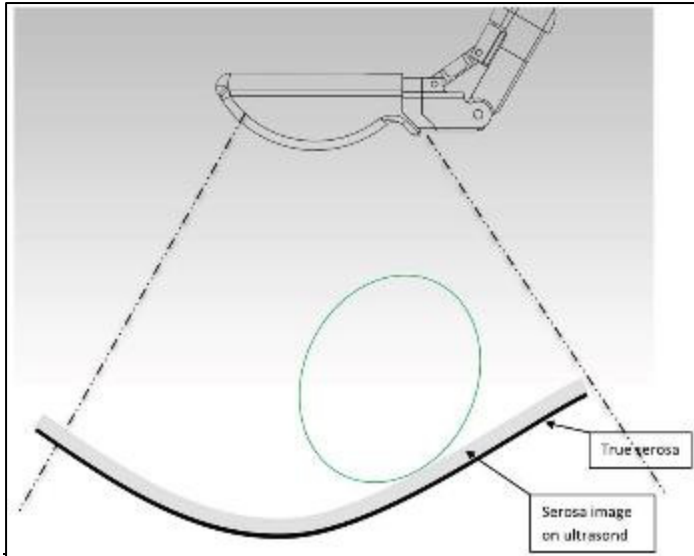

Figure 4-13 Ultrasound image of serosa may be thickened towards the transducer due to finite slice thickness.
- Always keep the Thermal Safety Border (green outer ellipse) on the inside of the serosal border to maintain the safety margin. Because of ultrasound physics, the uterine serosal margin may appear to have a “thick” border on the ultrasound image. To avoid injury to organs adjacent to the serosa, the Thermal Safety Border must never extend beyond the inner portion of the serosal margin, as depicted in Figure 4-13.